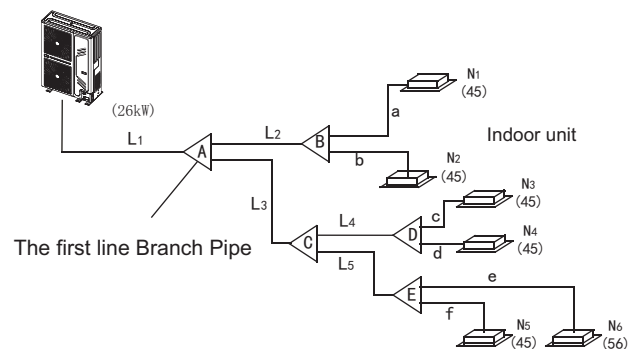

Fig.4-6
- Main pipe (Please refer to Fig.4-6 and Table 4-4)
In Fig.4-6, the main pipe L1, the outdoor unit capacity is 26kW, and check the Fig.4-6 to get the size of gas pipe/liquid pipe is $\Phi 22.2/\Phi 9.5$, and also the total equivalent length of liquid side and gas side pipes is $> 90\text{m}$, then check the Table 4-4 to get the size of gas pipe/liquid pipe is $\Phi 25.4/\Phi 9.5$, and according to the maximum value principle, it should apply the $\Phi 25.4/\Phi 9.5$.